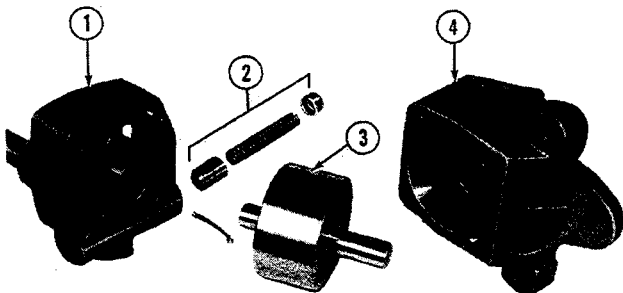

Figure 37
6. Remove relief valve spring and cap, Figure 37.
The oil pump assembly is shown in Figure 37.